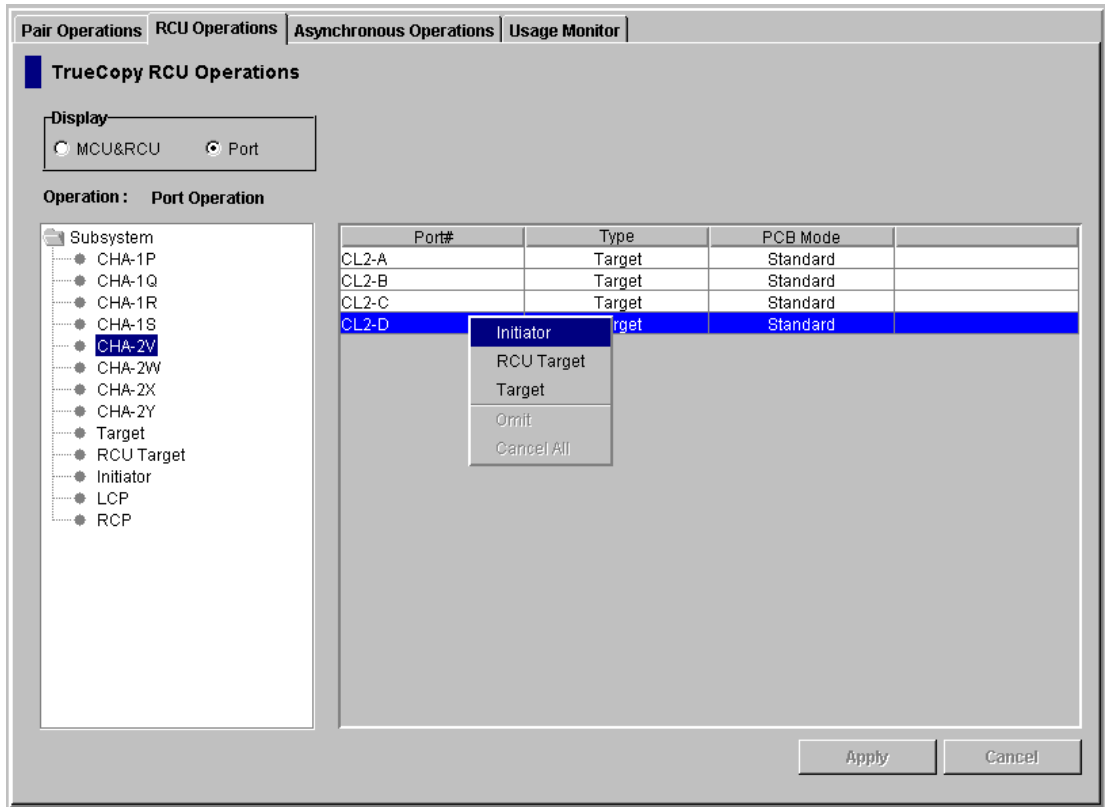

Figure 3.10 Configuring the RCU Target and Initiator Ports
2. At the RCUs (i.e., remote site), use the TrueCopy Remote Console software to configure the fibre-channel ports which are connected to the MCUs as RCU target ports (see Figure 3.10) (see section 4.2.1 for instructions).
5. Configure the fibre-channel ports which are connected to the RCUs as initiator ports (see Figure 3.10) (see section 4.2.1 for instructions).